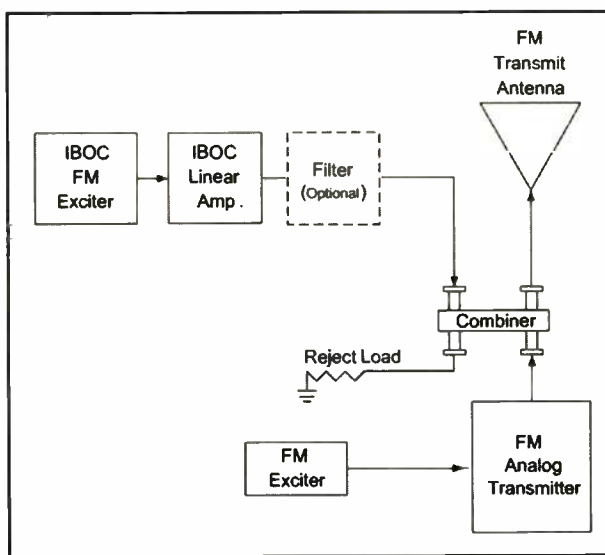

Fig. 2a: FM HD Radio High-Level, Separate Amplification
**High-Level Combining:** Initial station conversions utilized high-level combining or separate amplification. (See Fig. 2a.) With this method, the existing station transmitter had its output combined with the output of a separate digital transmitter compatible with HD Radio technology. The station then fed the resulting hybrid signal to the existing station antenna.